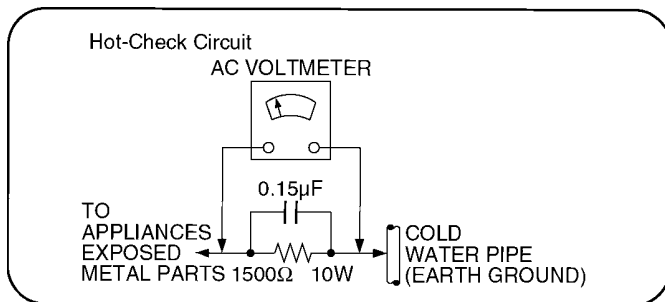

Figure 1
1.1.2. Leakage current hot check (See Figure 1.)
2. Connect a $1.5\text{k}\Omega$, 10 watts resistor, in parallel with a $0.15\mu\text{F}$ capacitors, between each exposed metallic part on the set and a good earth ground such as a water pipe, as shown in Figure 1.